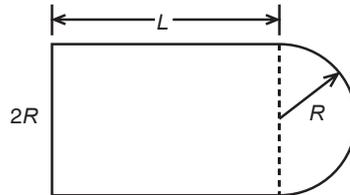

Figure P20
20. A fenced enclosure consists of a rectangle of length  $L$  and width  $2R$ , and a semicircle of radius  $R$ , as shown in Figure P20. The enclosure is to be built to have an area  $A$  of  $1600 \text{ ft}^2$ . The cost of the fence is  $\$40/\text{ft}$  for the curved portion and  $\$30/\text{ft}$  for the straight sides. Use the `min` function to determine with a resolution of  $0.01 \text{ ft}$  the values of  $R$  and  $L$  required to minimize the total cost of the fence. Also compute the minimum cost.